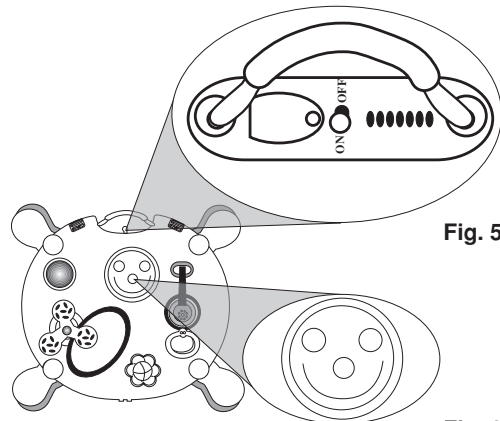

Fig. 5
1. Turn the unit on by locating the **"on-off" switch** on the top rim of the unit and slide the switch to the "on" position (Fig. 5).